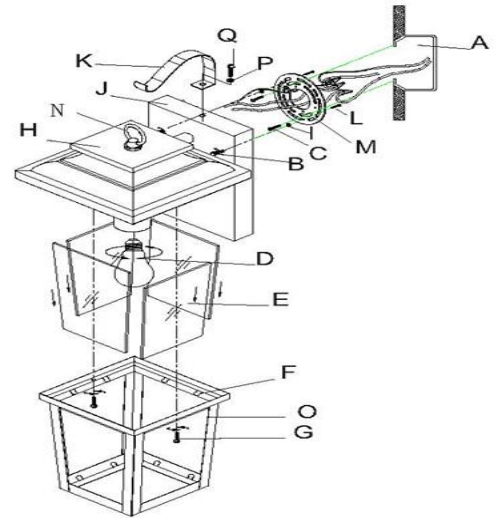

Fig. 2
CONNECTING ELECTRICAL (Fig.2)
6. Connect the electrical wires as shown in (Fig.2), making sure that all wire connectors are secured. If your outlet has a ground wire (green or bare copper), connect the fixture ground wire to it. Otherwise, connect the fixture ground wire directly to the mounting plate using the green screw provided.